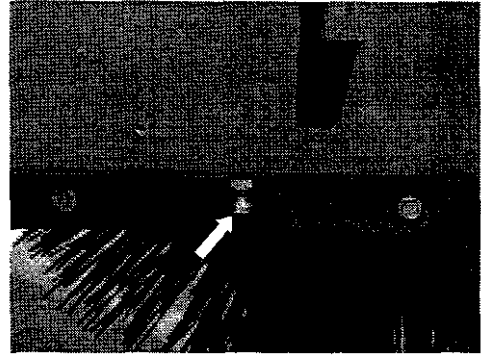

figure 25
1. Clean debris off the idler adjustment screw (figure 25) located on the drive end of the brush head.